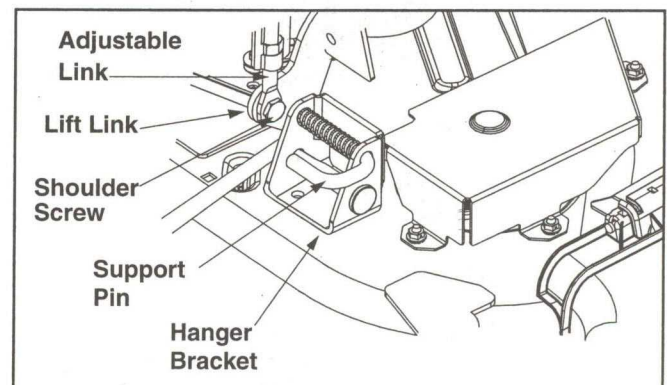

Figure 28
- Align the mower deck so the lift link aligns with the hanger bracket on the mower deck. See Figure 28.